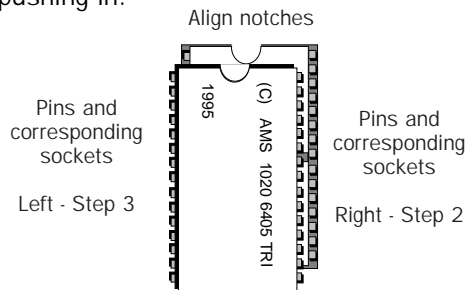

FIGURE 5.
- With the chip label facing up, align the notches at the top of the slot and EPROM chip. See figure 5 below.